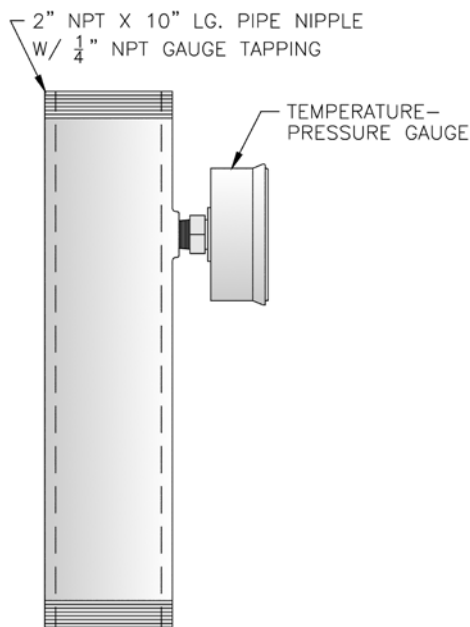

Figure 20: Temperature-Pressure Gauge Installation
1. Standard Temperature - Pressure Gauge Piping. See Figure 20.